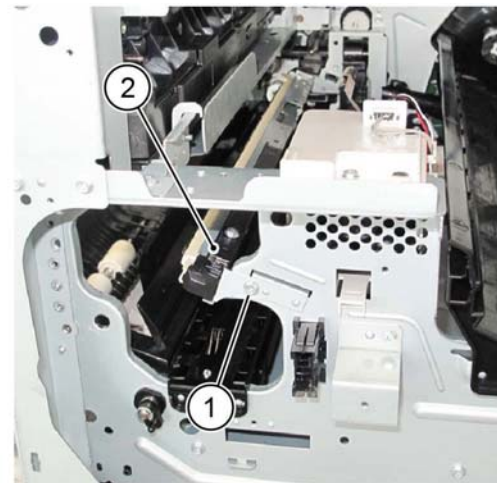

Figure 5 Print head assembly removal
7. Remove the print head assembly, Figure 5.
- a. Remove the screw (1).
- b. Remove the print head assembly (2).